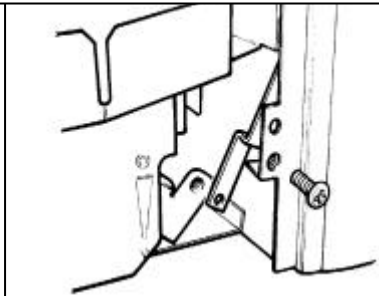

Fig. 27 Front Surround Bottom Location
10.3 Fix the bottom of the surround unit to the convection box with two screws (See figure 27).